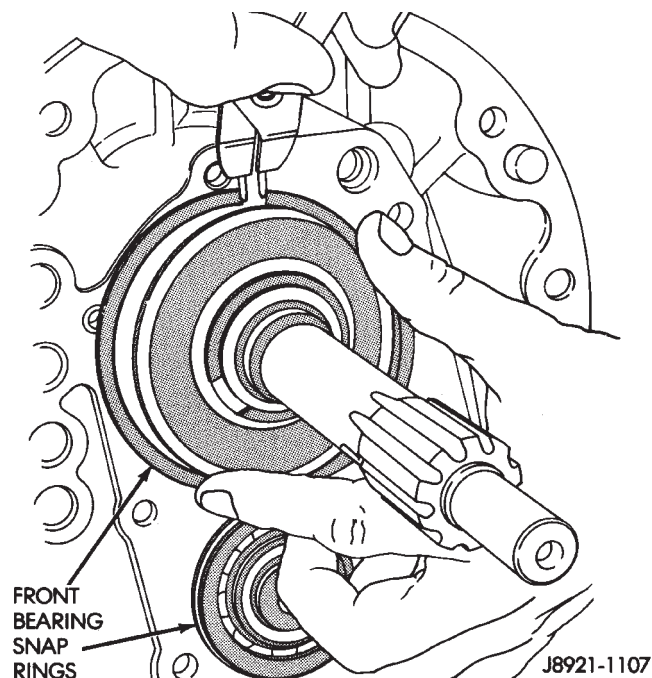
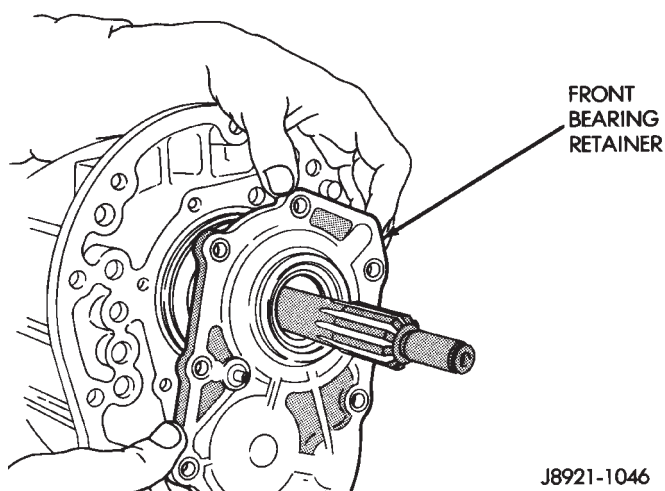

Fig. 38 Install Front Bearing Snap-rings
Fig. 39 Install Front Bearing Retainer
(4) Install new front bearing snap rings (Fig. 38).
(5) Apply 1/8 inch wide bead of Threebond® Liquid Gasket TB1281, P/N 83504038, to the front bearing retainer sealing surface.
(6) Install the front bearing retainer (Fig. 39) and tighten bolts to 17 N·m (12 ft. lbs.).
(7) On 4x2 transmissions;